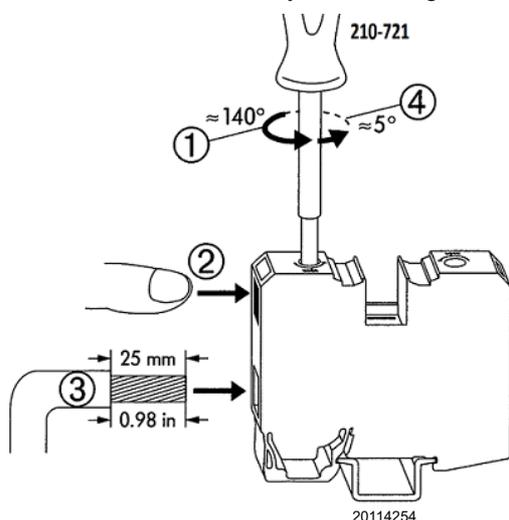

Fig. 30
Type "A" terminal opening (Fig. 30)
- Insert the previously stripped cable, turn the screwdriver slightly and pull it out. Make sure the cable is securely fastened Fig. 30.